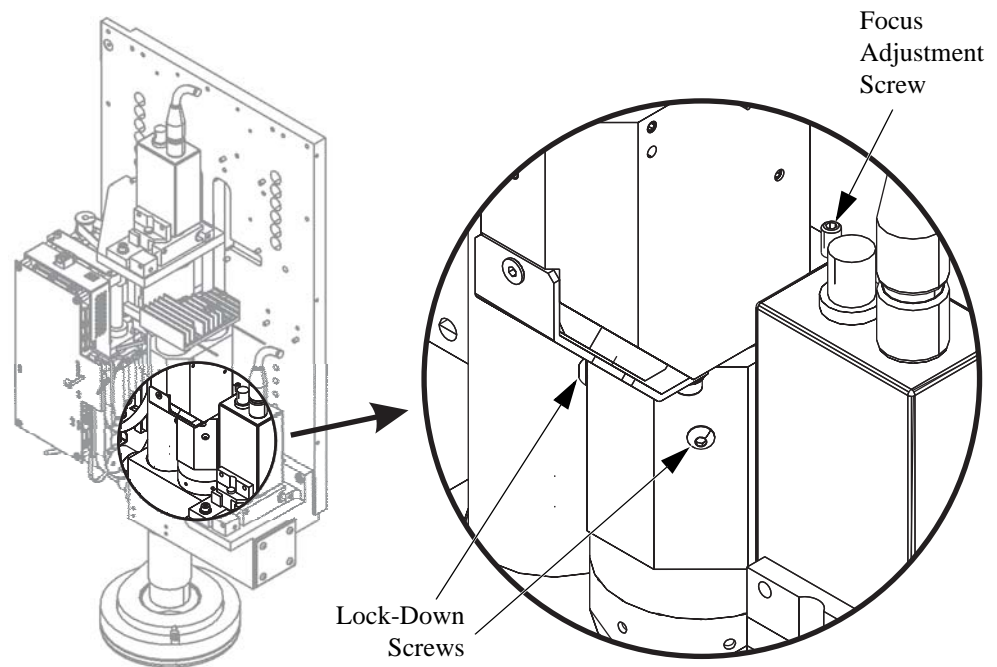

Figure 8-11 Grid Projector Focus Adjustment
9. Adjust the focus of the grid projector — loosen the grid projector lock-down screws and adjust the grid projector focus screw shown in Figure 8-11. Re-tighten the lock-down screws when finished.